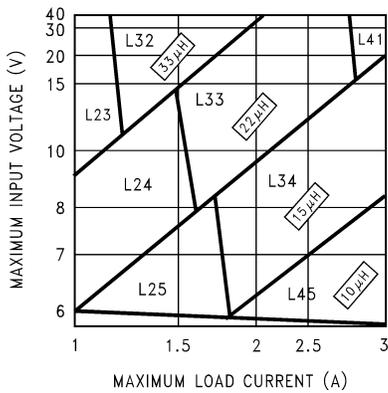

Figure 7-2. LM2676-3.3
**Step 3:** Use the nomograph for the 3.3-V device (Figure 7-2). The intersection of the 16-V horizontal line ( $V_{IN}$  max) and the 2.5-A vertical line ( $I_{LOAD}$  max) indicates that L33, a 22- $\mu\text{H}$  inductor, is required.